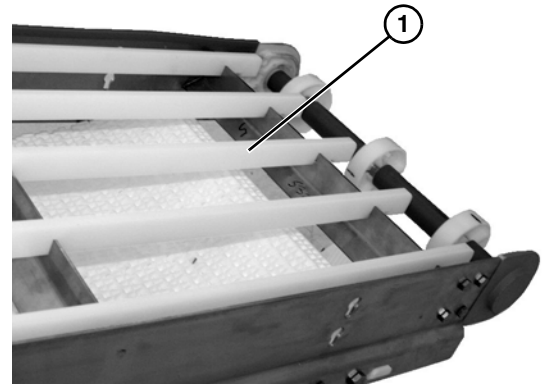

Figure 35
2. Remove worn wear strips (Figure 35, item 1) from frame notches.